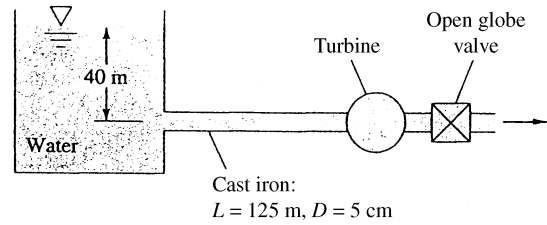

Fig. P6.110
6.110 In Fig. P6.110 the pipe entrance is sharp-edged. If the flow rate is $0.004 \text{ m}^3/\text{s}$, what power, in W, is extracted by the turbine?